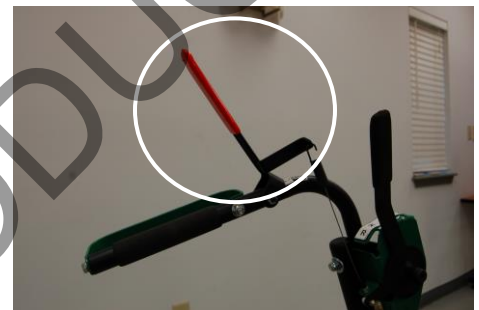

Fig. 5 Left Handle
2. Press blade clutch handle down (See Fig. 5) to engage blade. Allow blade to spin up to normal operating speed.
2. Release blade clutch handle (Fig. 5) to disengage blade.